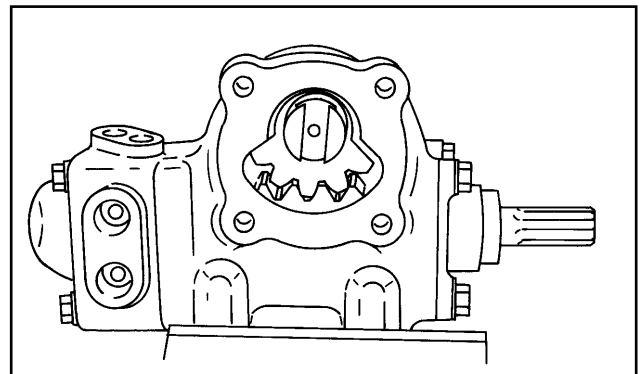

Fig. 5.12
- (3) Rotate the worm shaft so that the sector shaft teeth are positioned as shown in Figure 5.12. Lightly tapping the sector shaft serration by hand, remove the sector shaft.